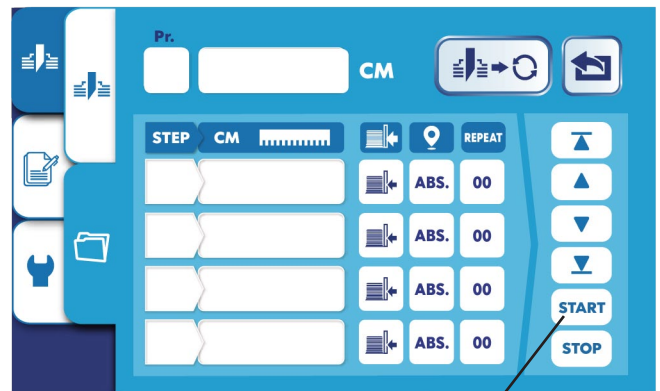

Fig. 12
2. Load paper, and align to the back gauge and side guide using the wooden push block. Once the stack is aligned, press the Start icon (Fig. 12).